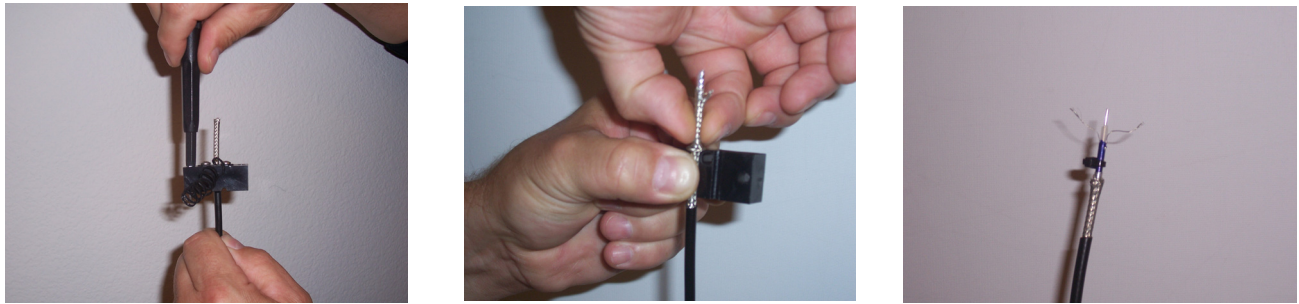

Figure 4.1 - Preparing the MicroPoint Cable Ends
Check the MicroPoint Cable before unreeling it. Please note that it is normal to have the sense wires either sticking out or sucked in at the end of the cable. Using a MicroPoint stripping tool remove about two (2) inches (51 mm) of jacket from both ends of the cable. Trim back the braid and foil as shown in Figure 4.1. Carefully remove the Mylar tape and expose the Sense Wires. Strip the core from the end of the center conductor. Separate the conductors so they are not shorted together.
Once the cable is completely unreeled in a straight line on the ground, remove the tie-wraps that secured it to the fence (if used) and remove the end caps temporarily. Trim back the braid and foil as shown in Figure 4.1. Have one person hold the jacketed portion of the cable. Slowly pull one of the sense wires from the cable until you feel a slight resistance, then release the pressure to allow the Sense Wire to “spring back” into the cable. Repeat for the second sense wire. Do not be alarmed if all of the wire pulled does not return into the cable, it will be trimmed later. If more than 24 inches (610mm) of sense wire is exposed, and resistance is felt, stop pulling on that wire and immediately check the other end of the cable. If either of the sense wires has disappeared back into the cable do not continue pulling on that sense wire.